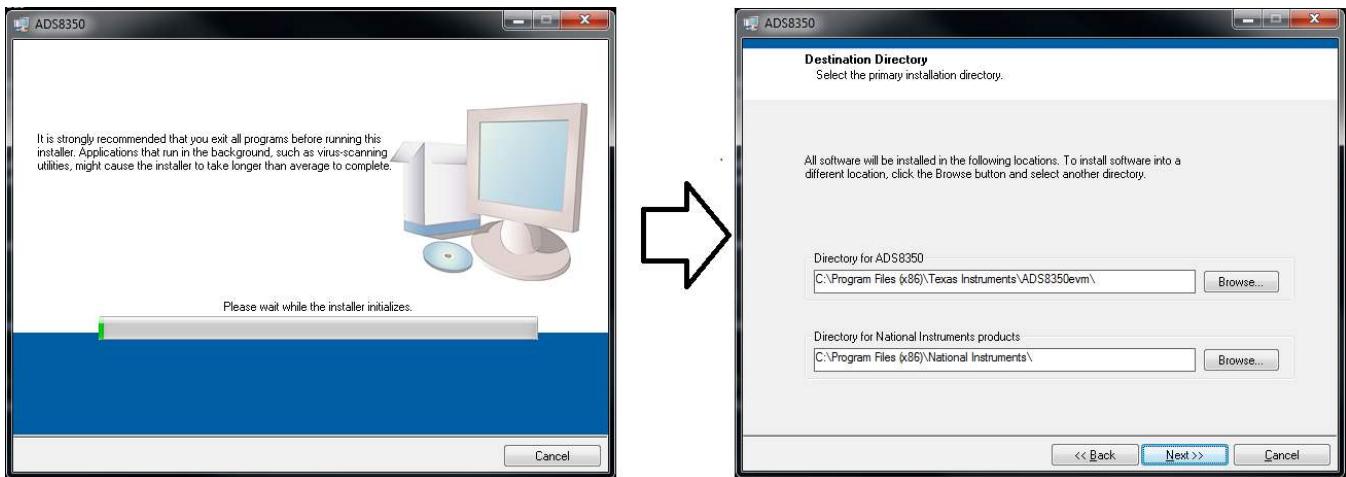

Figure 10. Welcome Screen and Destination Directory Screens
5. A prompt appears with the destination directory; select the default directory under: ...|Program Files(x86)|Texas Instruments|ADS8350evm), as shown in Figure 10.